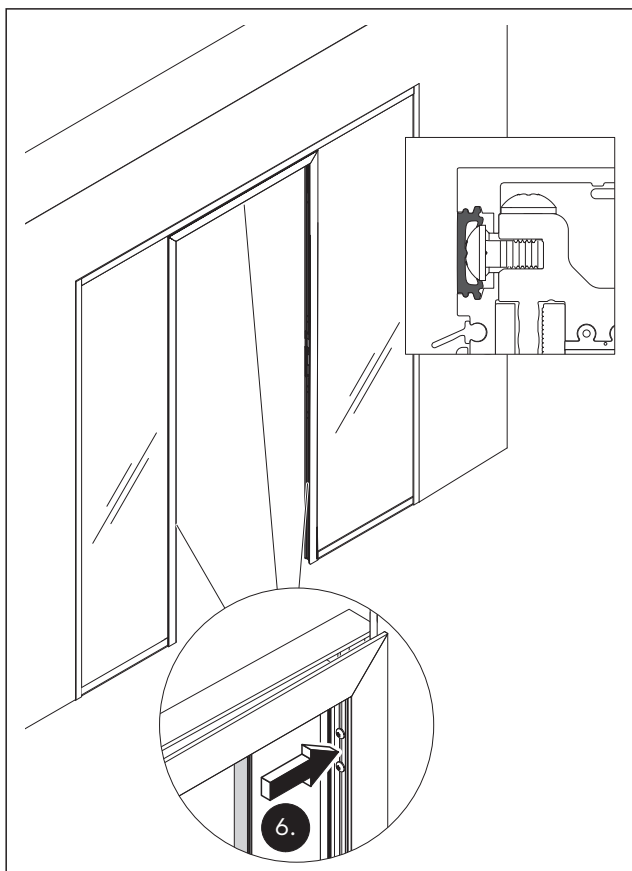

Fig. 49 Attach the inner silicone seals over the screws in the passage.
6. Attach the silicone seals above the screws on the cover profiles for the door frame (Fig. 49).